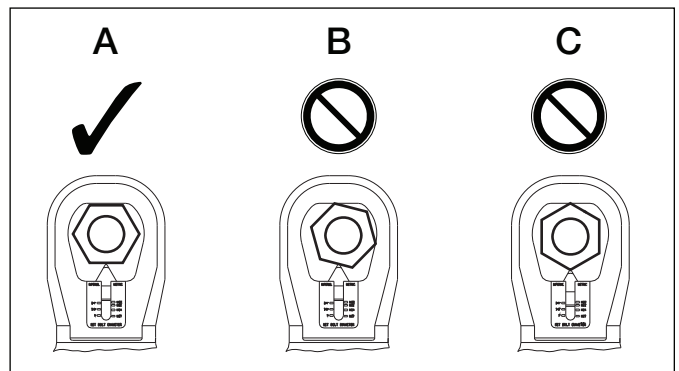

Figure 8, Positioning the Cutting Head
6. Position the cutting head over the nut, ensuring that the flat surface of the blade rests against one of the nut flats. Centrally position the nut within the head so that the blade will cut in the center of the nut flat. See Figure 8, view "A".